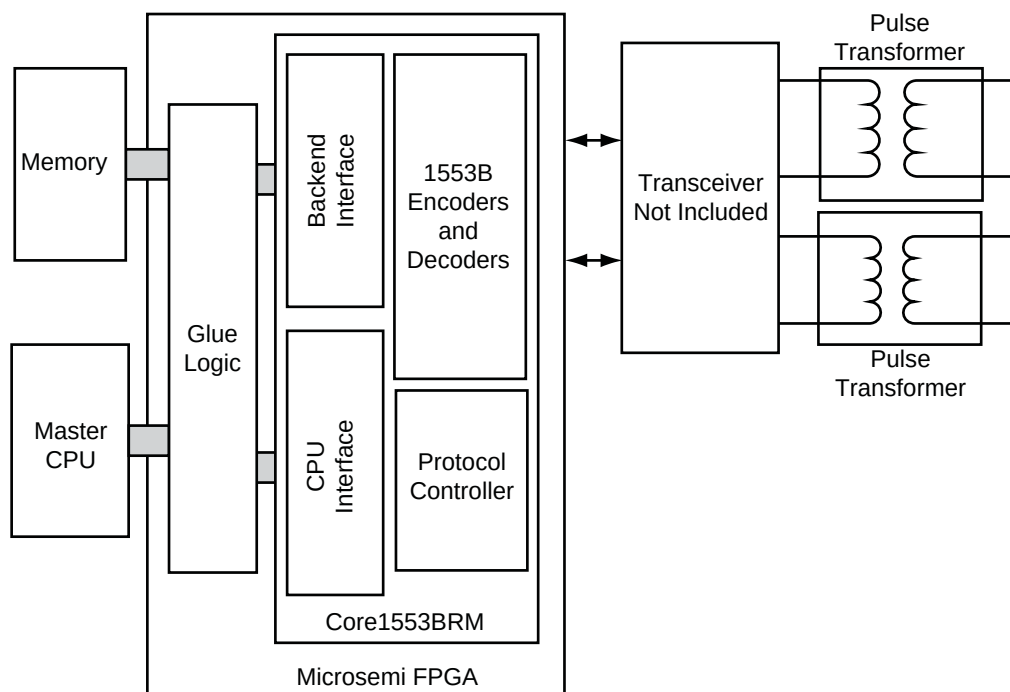

**Figure 1 • Typical Core1553BRM Application**
Microsemi Core1553BRM provides a complete MIL-STD-1553B bus controller (BC), remote terminal (RT), or bus monitor terminal (BM or MT). Core1553BRM can be configured to provide all three 1553 functions or any combination thereof. The core is supported in all recent Microsemi Flash, antifuse, and radiation-tolerant product families. A typical system implementation using Core1553BRM is shown in Figure 1.